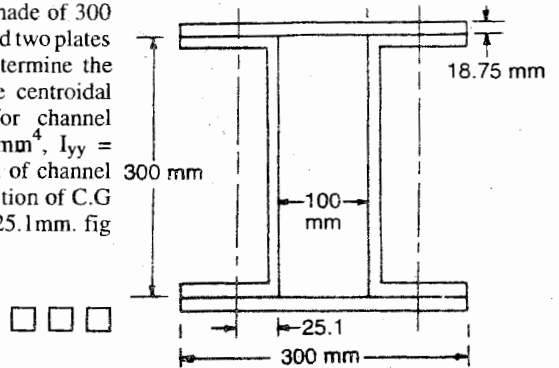

Fig. 6.34
11. A composite section is made of 300 mm x 100 mm channel and two plates 300 mm x 18.75 mm. Determine the I_{xx} and I_{yy} through the centroidal axes given that I_{xx} for channel section = $2775 \times 10^4 \text{ mm}^4$, $I_{yy} = 473.43 \times 10^4 \text{ mm}^4$, Area of channel section = 5756 mm^2 , position of C.G from back of channel = 25.1 mm. fig 6.34